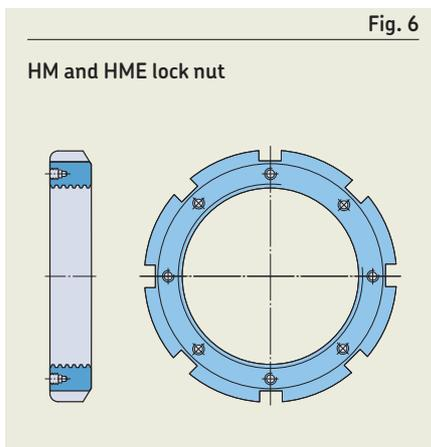

Fig. 6
- have eight equally-spaced slots located around their circumference to accommodate an impact spanner (fig. 6)